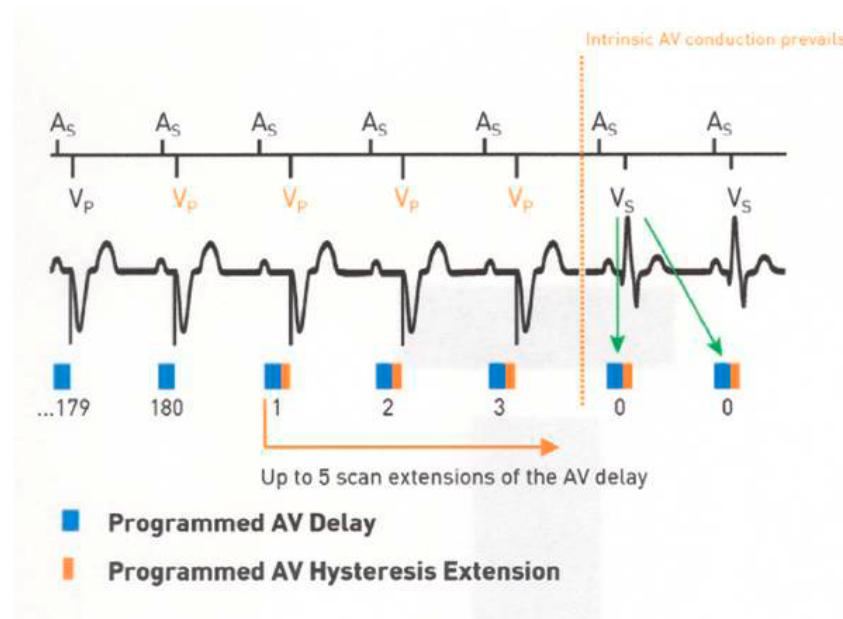

Figure 110: AV Scan Hysteresis
- Each Vs event will reset the scan counter and initiate the extended AV delay (see green arrow in Figure 110).